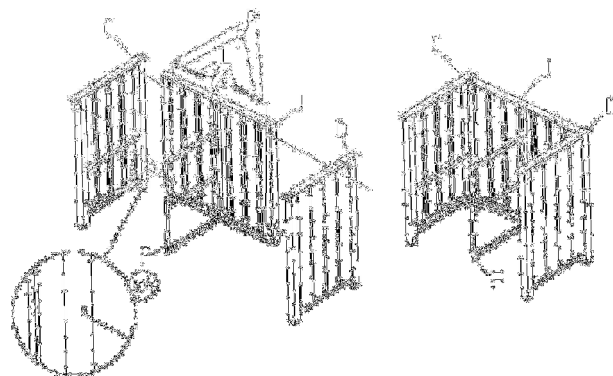

Figure 2
2. Assemble the left side (C), the right side (D) and back (J) together with 4 bolts $\frac{1}{4}$ in x 30 mm (L), 4 flat washers (P) and 4 spring washers (R) by using the Allen wrench (W), (see Figure 2).